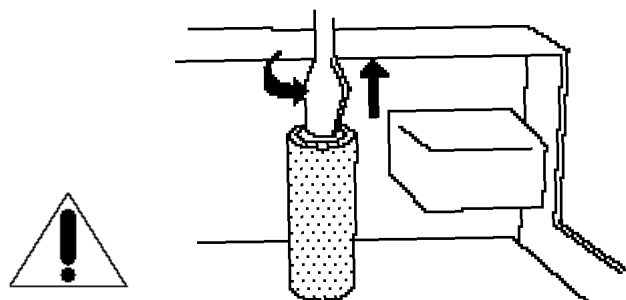

Figure 5 - Fuse location, next to AC power socket.
1. Check that the AC Detachable Power Cord is plugged into the SFD-2 Detachable Power Cord Socket (H) and is connected to a live source of AC power. For instance, if using a power bar, check that the bar is turned on.
2. Ensure that the digital source is connected to the appropriate digital input (J, K & L) as selected by the Input Signal Selector Switch (E).
- A "fast-blo" fuse, with a rating of 1.5 Amp/250 V (.075 Amp/250 V for European and Asian versions), is installed in the cylindrical tube next to the AC power socket (Figure 5).
- The AC power fuse is intact and has not blown. If the fuse has blown the thin metal conductor will have melted and the glass may appear "smoked". If the fuse has blown, replace with a fuse of the same rating (1.5 Amp/250V fast-blo for 100 to 120 volt countries and 0.75 Amps/250V fast-blo for 200 to 240 volt countries). See Figure 5 for location and removal.